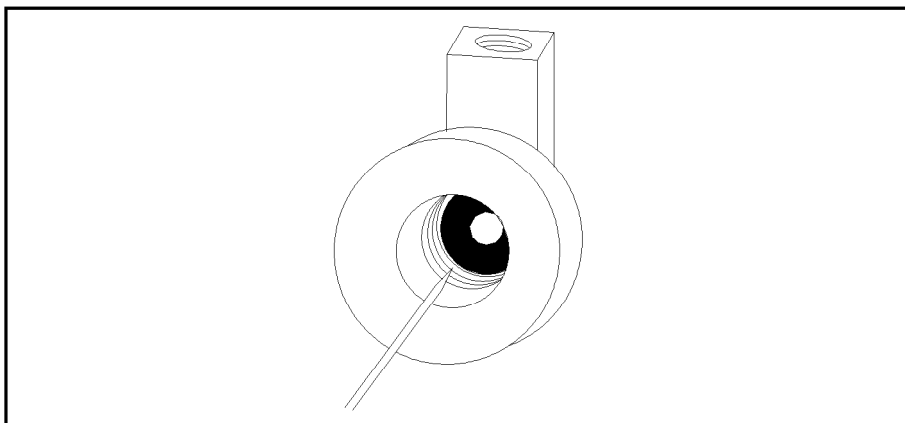

Figure 4-12. Removing the Used Gasket
6. The cell gasket will probably remain stuck inside the cell piece. Use a toothpick to prise out the gasket, see Figure 4-12. Discard the used gasket.